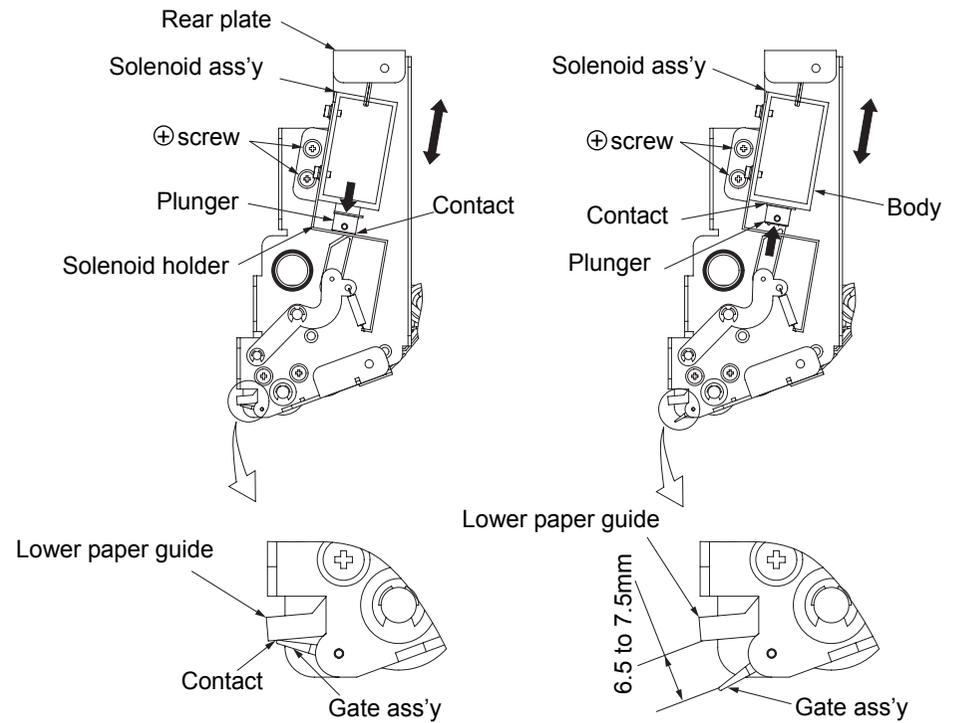

Fig. 6-62. Positioning the solenoid ass'y
5. Check that the clearance between the gate ass'y and the tip of the lower paper guide becomes as shown in Fig. 6-62 when contacting the plunger to the solenoid A [1] body.